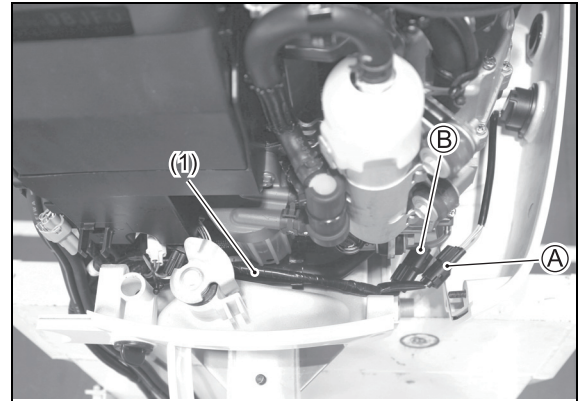
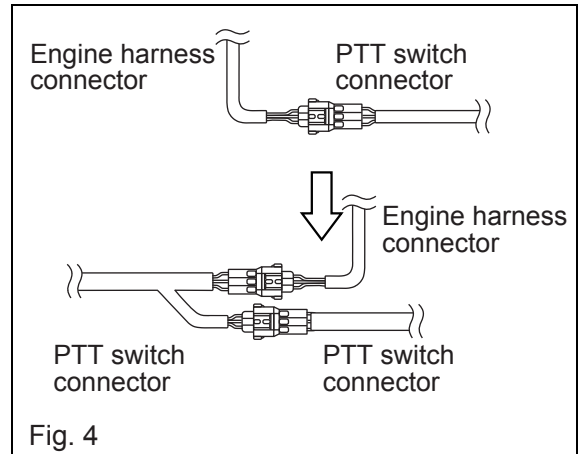

Fig. 3
Fig. 4
5. Connect the engine adapter wire (1) to the PTT switch connector (A) and the engine harness connector (B) as shown in Fig. 3 and Fig. 4.